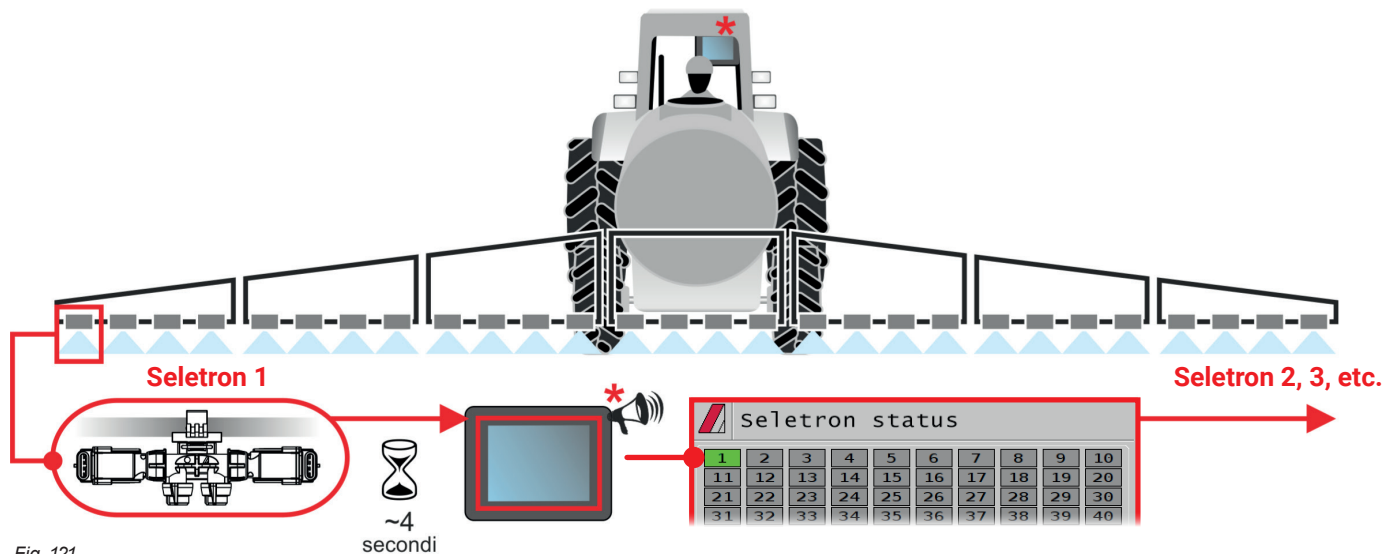

Fig. 121
Seletron no. 1 is the first on the left, when looking at the boom from behind (Fig. 121).
**WAIT FOR THE ACOUSTIC SIGNAL BY THE MONITOR. WAIT FOR THE MONITOR TO DISPLAY THE GREEN SYMBOL FOR THE CONNECTED SELETRON (FIG. 121).**